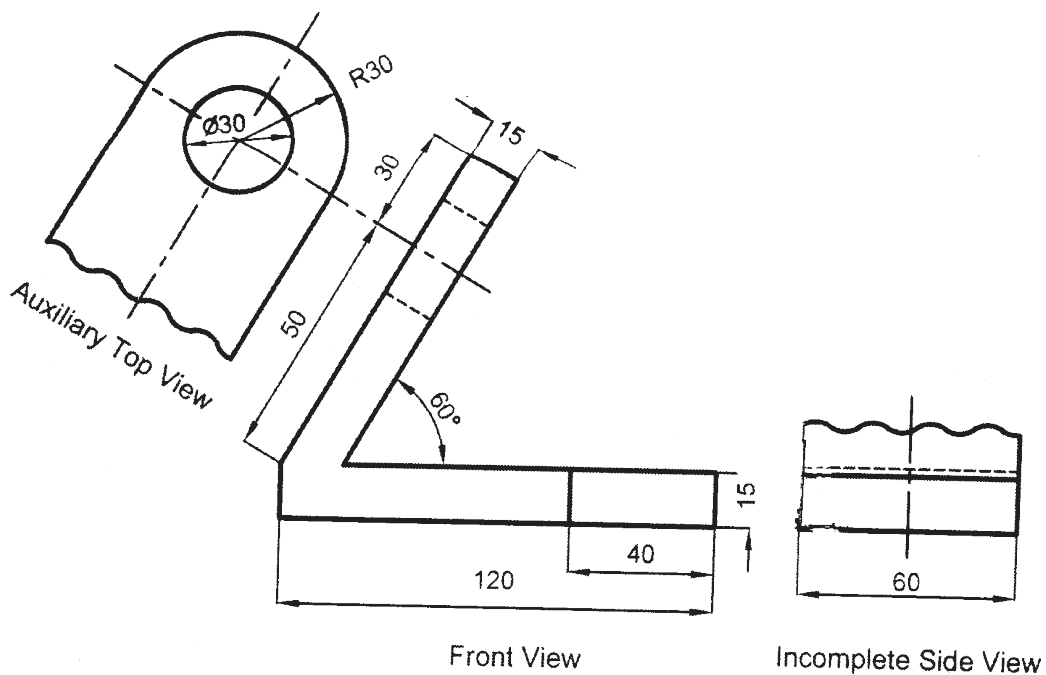

Fig. No. 1
- a) Fig. No. 1 shows front view, incomplete side view, auxiliary top view of an object. Redraw the given views and complete the side view.